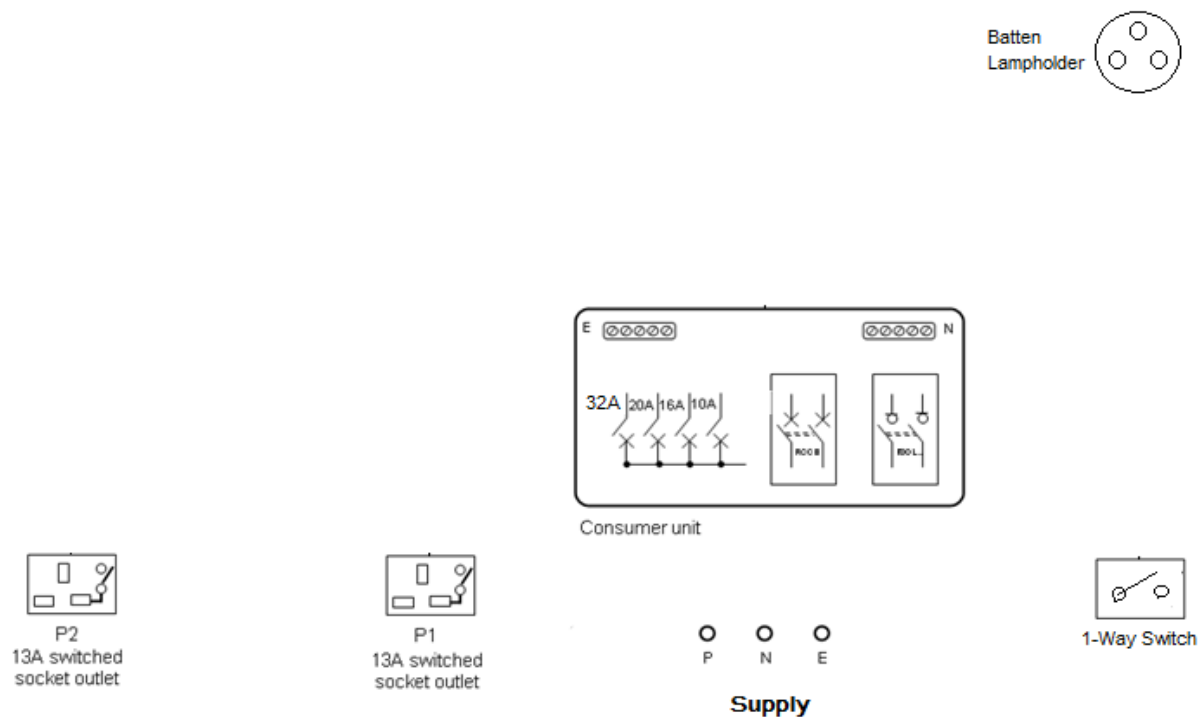

Figure 2
- Complete the wiring diagram in Figure 2 and submit to the invigilator.